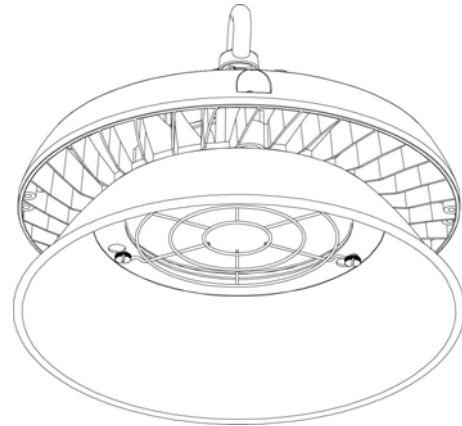

Figure 4
2.3 Reinstall screws to secure Reflector and Wire Guard (see Figure 4). (Note: do not over tighten screws, could damage reflector and wire guard).